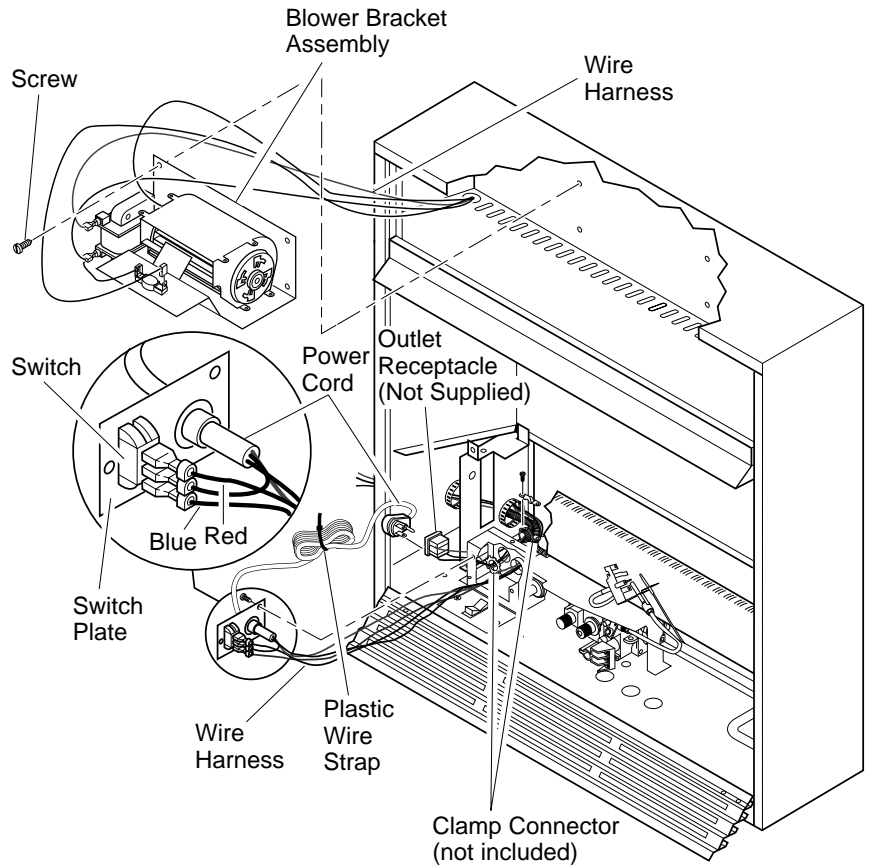

Figure 6 - Installing Blower Bracket Assembly
4. Plug power cord to the outlet receptacle (not provided) as shown in Figure 6. Wind the extra cable in power cord and tie it up with the plastic wire strap (see Figure 6). Set the cable bundle between the burner bracket and outer casing, away from the burner.